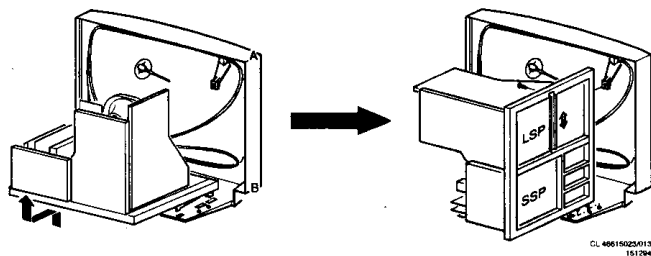

Fig. 3
1.1 The overview position (Fig. 3)
1.2 The service position of the Large Signal Panel (LSP) and the Small Signal Panel (SSP) (Fig. 3)